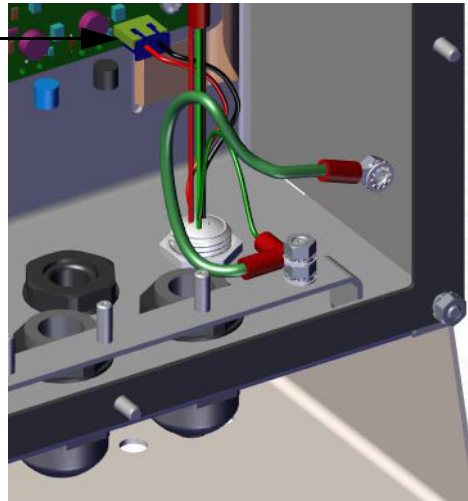

Figure 2-10. Connect DC Wiring
3. Run the other two wires up the side of the indicator and connect the three pin plug (PN 15888) to the power supply board as shown in Figure 2-10 and Table 2-3.